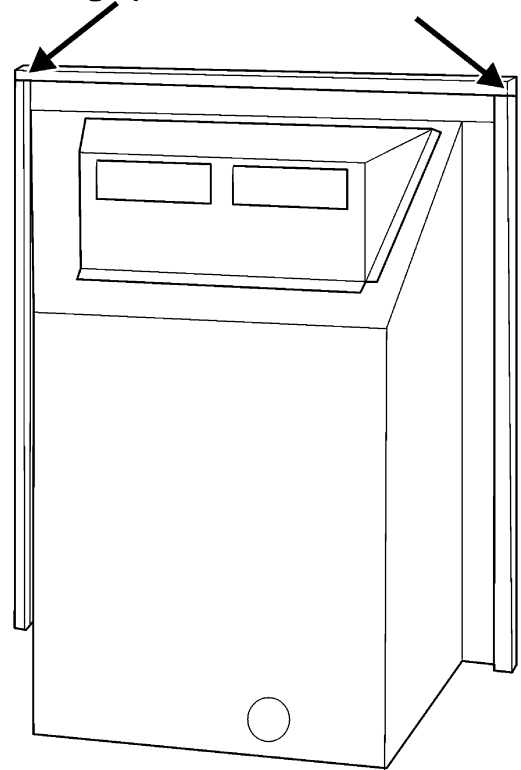

Figure 16. Fitting the foam seal
10. There is a length of self adhesive foam seal supplied with the fire. This will need to be fitted to the outer rear edges of the side and top flanges of the convection box. Cut a 485mm length of foam seal. Be careful not to stretch the seal when measuring. Remove the protective backing from the foam seal and fit this to the rear of the top flange (See figure 16). Cut two 580mm lengths. Fit these to the rear outer edges of the side flanges. Ensure that there is no gap between the foam seals where they meet at the top flange (See figure 16)